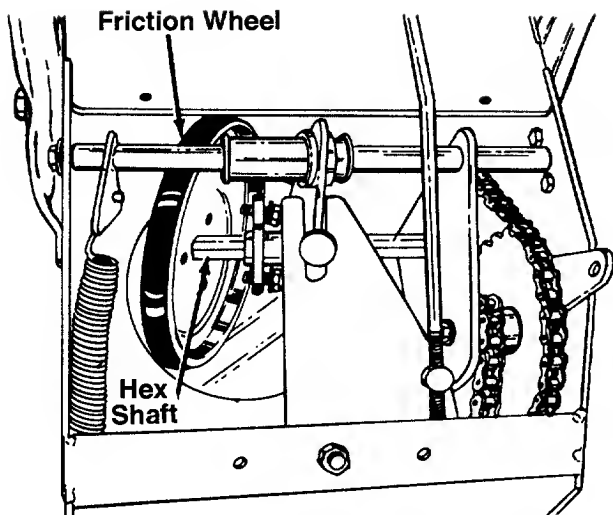

FIGURE 37.
5. Slide the friction wheel off the end of the hex shaft. See figure 37.